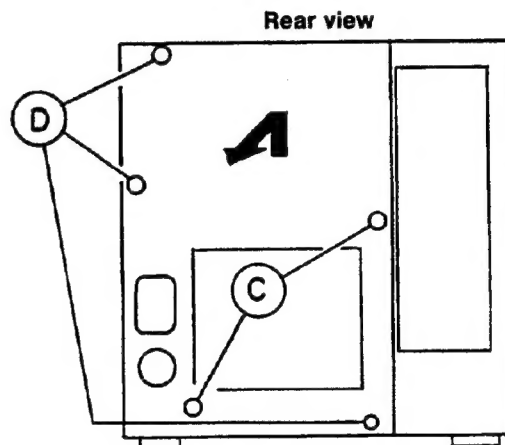

Fig. 2
- (1) Remove the top cover.
- (2) Remove the 2 screws ③ shown in Fig. 2.
- (3) Loosen the 3 screws ④.
- (4) Slightly slide the rear cover in the direction of the arrow and remove it.